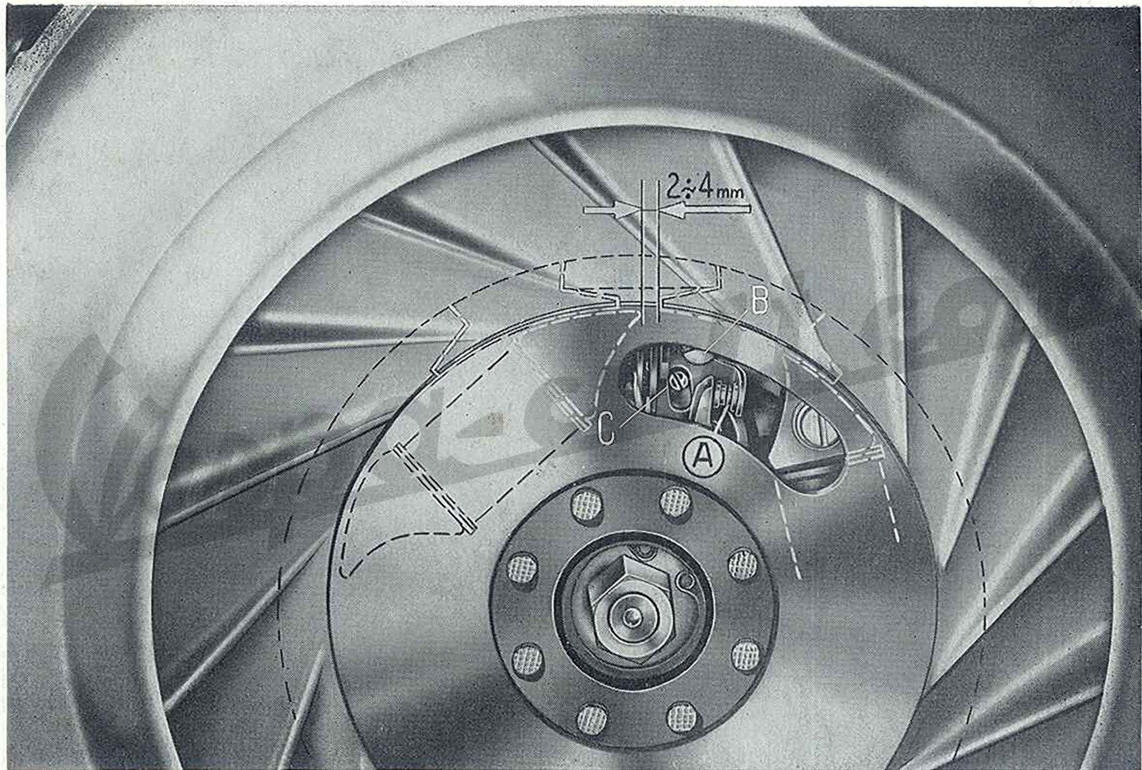

Fig. 15 - Operations for checking the « magnetic » timing of the flywheel
- 3) - Clean, and if necessary, reset the contact breaker points (fig. 15). To avoid faulty ignition or other defects, **consult your Service - Station for this operation.**